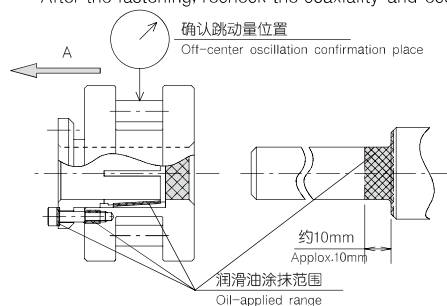

图1 / Fig. 1
2. 在轴与滚轮直接接触的部位以及涨紧套各个锥面接触部, 锁紧螺栓的螺纹部分, 螺栓头部座面轻轻地涂抹上润滑油或润滑脂。但是, 涨紧套内径部, 外径部不要沾上油。(图1)
Apply a thin film of oil or grease to the shaft portion in direct contact with the roller pinion, each taper contact portion of the clamping tool, and the threaded portion and head seat of the lock bolt (Fig.1).
Insert the outer race of the clamping tool into the roller pinion, and then fit the roller pinion and the clamping tool on the shaft in this order. At this time, shift the allocated positions of the inner race and outer race of the clamping tool (Fig.1).
注4. 在拧紧锁定螺栓时, 滚轮会朝着图1箭头A的方向有若干移动, 注意与齿轮侧面的干涉。
Note4. Since the roller pinion moves slightly in the arrow A direction of Fig 1 when the lock bolts are fastened, watch out the roller pinion for the interference with the ring gear side